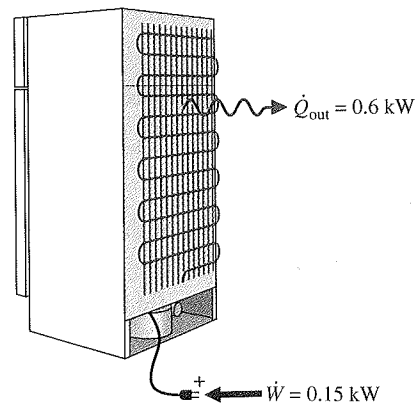

Fig. P2.90
2.90 The refrigerator shown in Fig. P2.90 steadily receives a power input of 0.15 kW while rejecting energy by heat transfer to the surroundings at a rate of 0.6 kW. Determine the rate at which energy is removed by heat transfer from the refrigerated space, in kW, and the refrigerator's coefficient of performance.